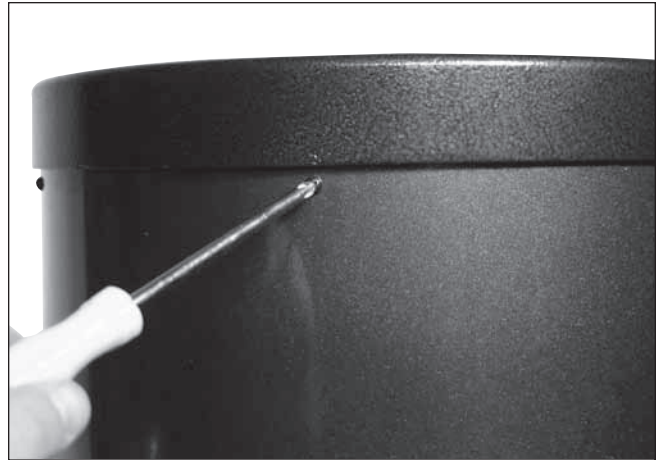

Figure 16. To remove the rear end ring, unthread the six screws that connect it to the tube.
1. To install the mirror cell into the optical tube, the rear end ring attached to the lower section of the optical tube must first be removed. This is done by unthreading and removing the six Phillips-head screws that connect the end ring to the tube (Figure 16), and then pulling the end ring off of the tube.